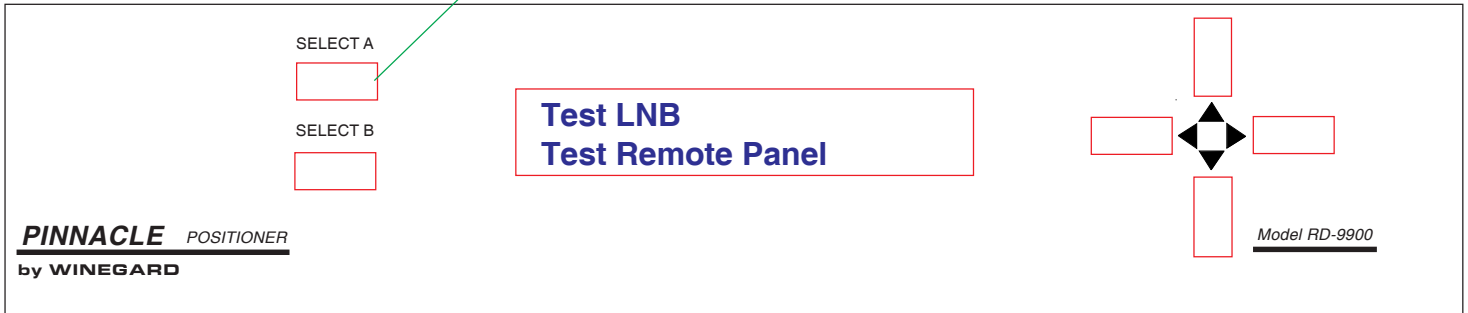
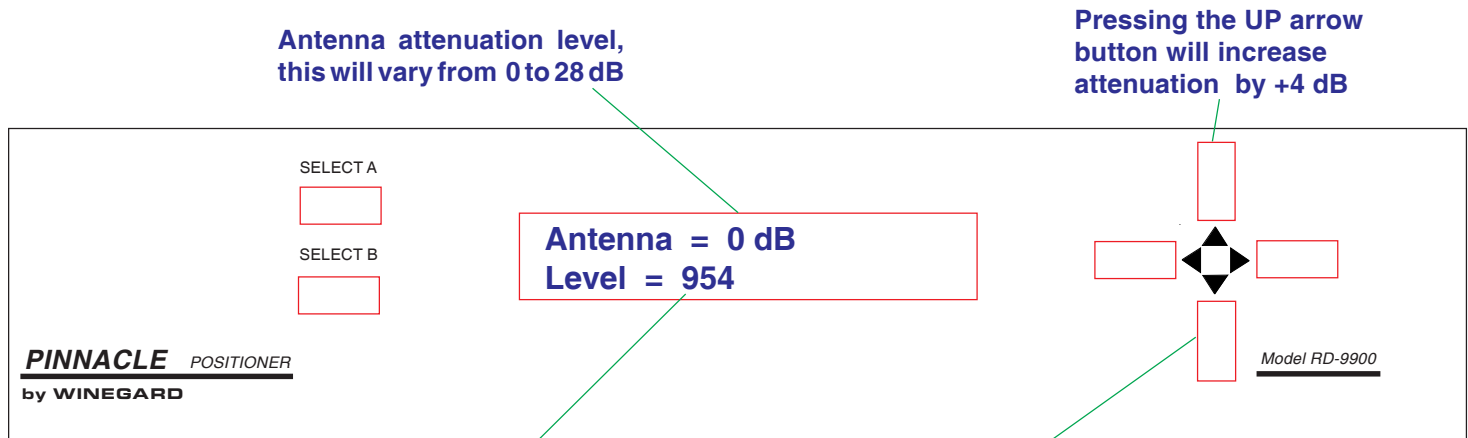

Figure 23
Figure 24
6. Press **[SELECT A] Test LNB**, see Figure 23. The positioner will display the menu shown by Figure 24.